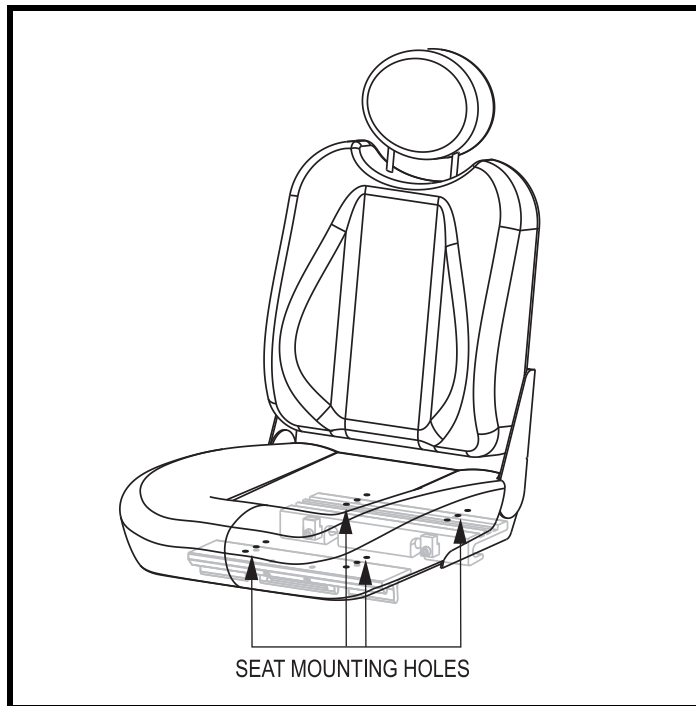

Figure 16. Seat Position Adjustment
4. Reposition the extrusions on a different set of mounting holes. You must move both extrusions the same number of holes either forward or backwards. **See figure 16.**